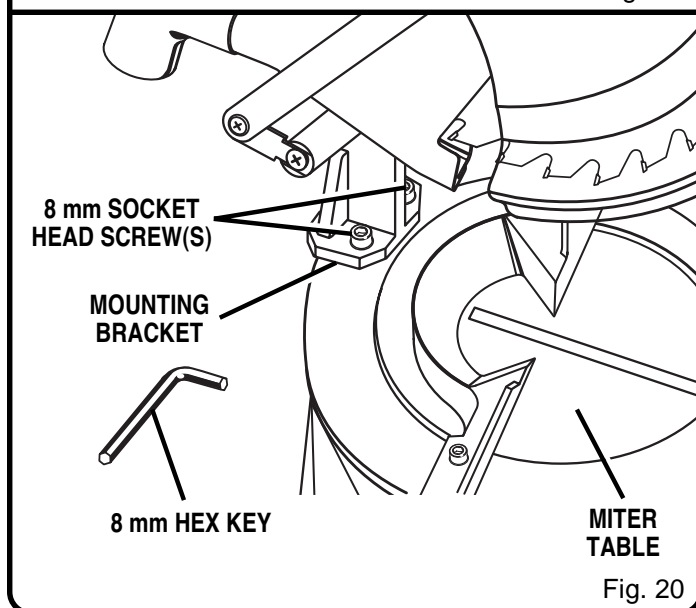

Fig. 20
- Using the 8 mm hex key provided, loosen the socket head screws that secure the mounting bracket to the miter table. See Figure 20.